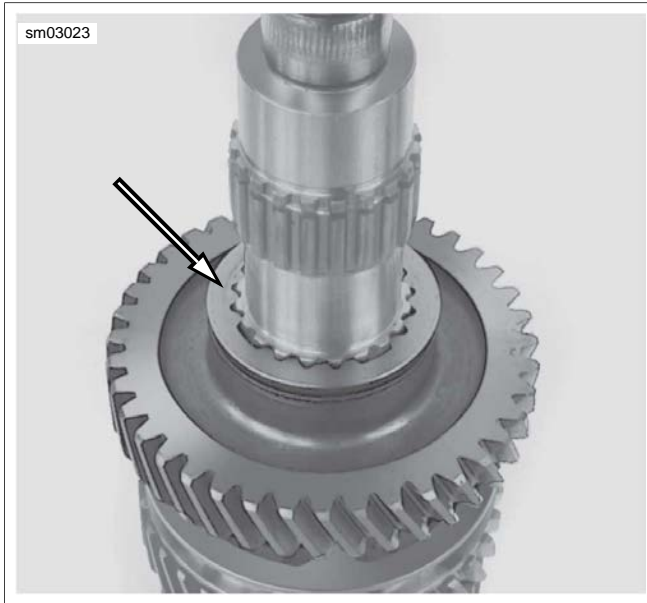

Figure 6-21. Third Gear Lock Ring
See Figure 6-21. Note the direction that the 3rd gear locking ring is installed.
3. See Figure 6-21. Place countershaft 3rd gear lock ring over securing segments.